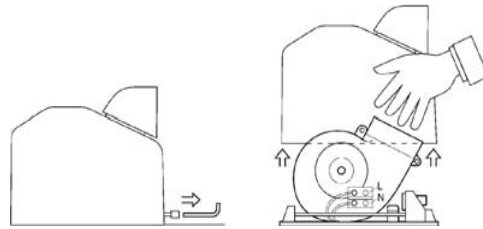

Figure 1
- Damaging cover (See Figure 1).
- Drill four holes (Fig.1) Ø 5/16 inches (Ø 8mm) diameter and inches 1 ¾ (45 mm.) depth.
- Percer quatre trous (Figure 1) de 5/16" (8 mm) de diamètre, et de 1 3/4" (45 mm) de profondeur.